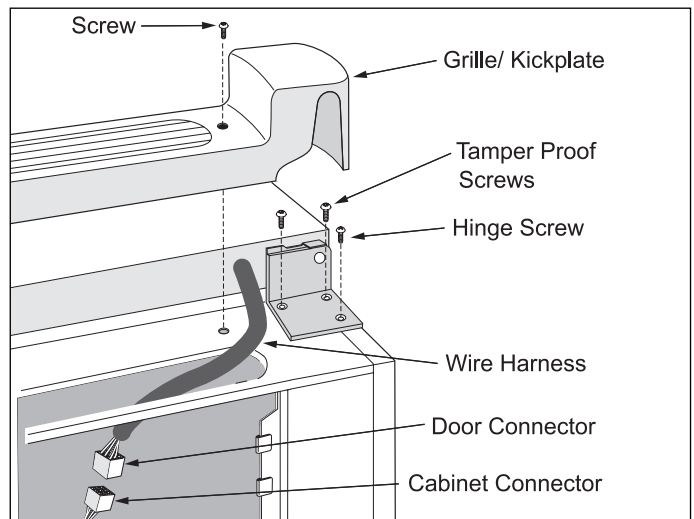

Figure 5-4. Lower Hinge Removal
5. Reach under bottom of cabinet and disconnect wire leads of door connector from the cabinet connector. (See Figure 5-4)